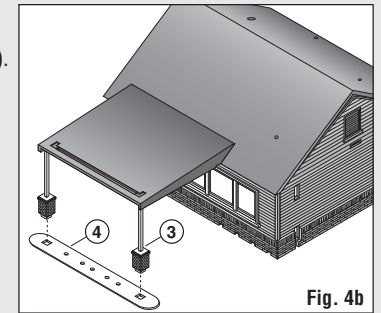

Fig. 4b
- Glue the Canopy Support Post Base ④ to the bottom of the Canopy Support Posts ③ (Fig. 4b).